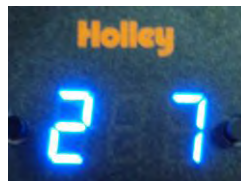

Figure 5
4. **SETTING 2** – This setting is used for the intensity of the LED lights on the gauge with NO headlights on (0 = dim and 9 = bright). This shows you that you are on the 2nd setting and you chose level 7 for brightness (**Figure 5**).